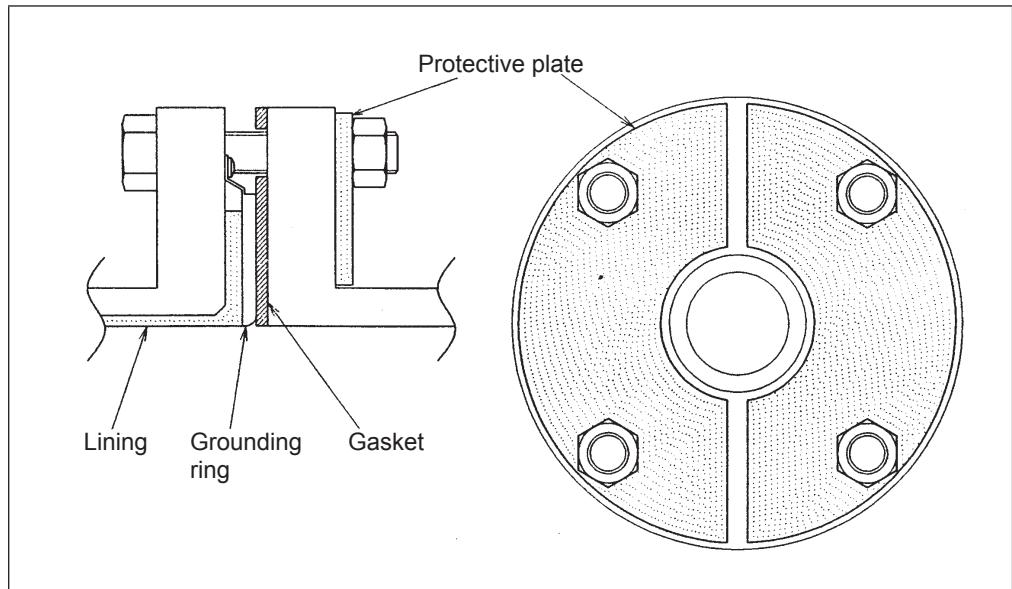

Fig. 2-27. Detector installation using SUS material grounding ring (with protective plate)
- Protective plate: Use a protective plate if bolt tightening to the specified torque threatens to warp or damage the PVC pipe. The plate material must be metal (such as stainless steel at least 6 mm thick) that will not deform when the nuts are tightened. For the shape of the protective plate, see Fig. 2-27.
Install the protective plate between the outer side of the PVC flange and the detector, as shown in Fig. 2-27. The protective plate protects the PVC pipe from deformation or damage when secured at the specified torque. The torque level is unrelated to the pipe or grounding ring material. See Table. 2-5 on page 2-24 for the appropriate torque. For the internal diameters of the gaskets, see Table. 2-6 on page 2-26.